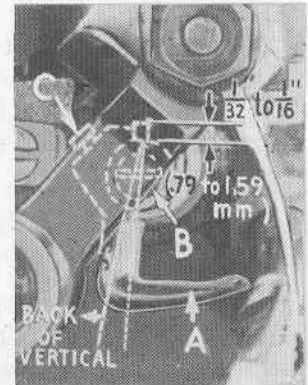

Fig. 8
Insert upper looper (A, Fig. 8) in its holder. Screw (B) holds upper looper in its holder, and permits it to be pushed in or out, or turned around its shank. Insert upper looper holder into upper looper shaft, if it is not already in place. Screw (C, Fig. 8) on clamp holds the upper looper holder in the shaft. Locate upper looper in its holder so that the shank extends $1/32$ to $1/16$ inch (.79 to 1.59 mm) beyond holder (Fig. 8), for Styles 39500 QA, QB, RS, SE, SG, TA and TD, and $1/16$ to $3/32$ inch (1.59 to 2.38 mm) for Styles 39500 QP, QY, RA, RF, RR, SF and TH.
When the upper looper is at the right end of its stroke, upper looper holder should be set to position upper looper shank slightly back of vertical on Styles 39500 QA, QB, QP, QY, RA, RF, RS, SE, SG, TA, TD and TH (Fig. 8). On Styles 39500 RR and SF upper looper holder should be set to position the upper looper shank about vertically.